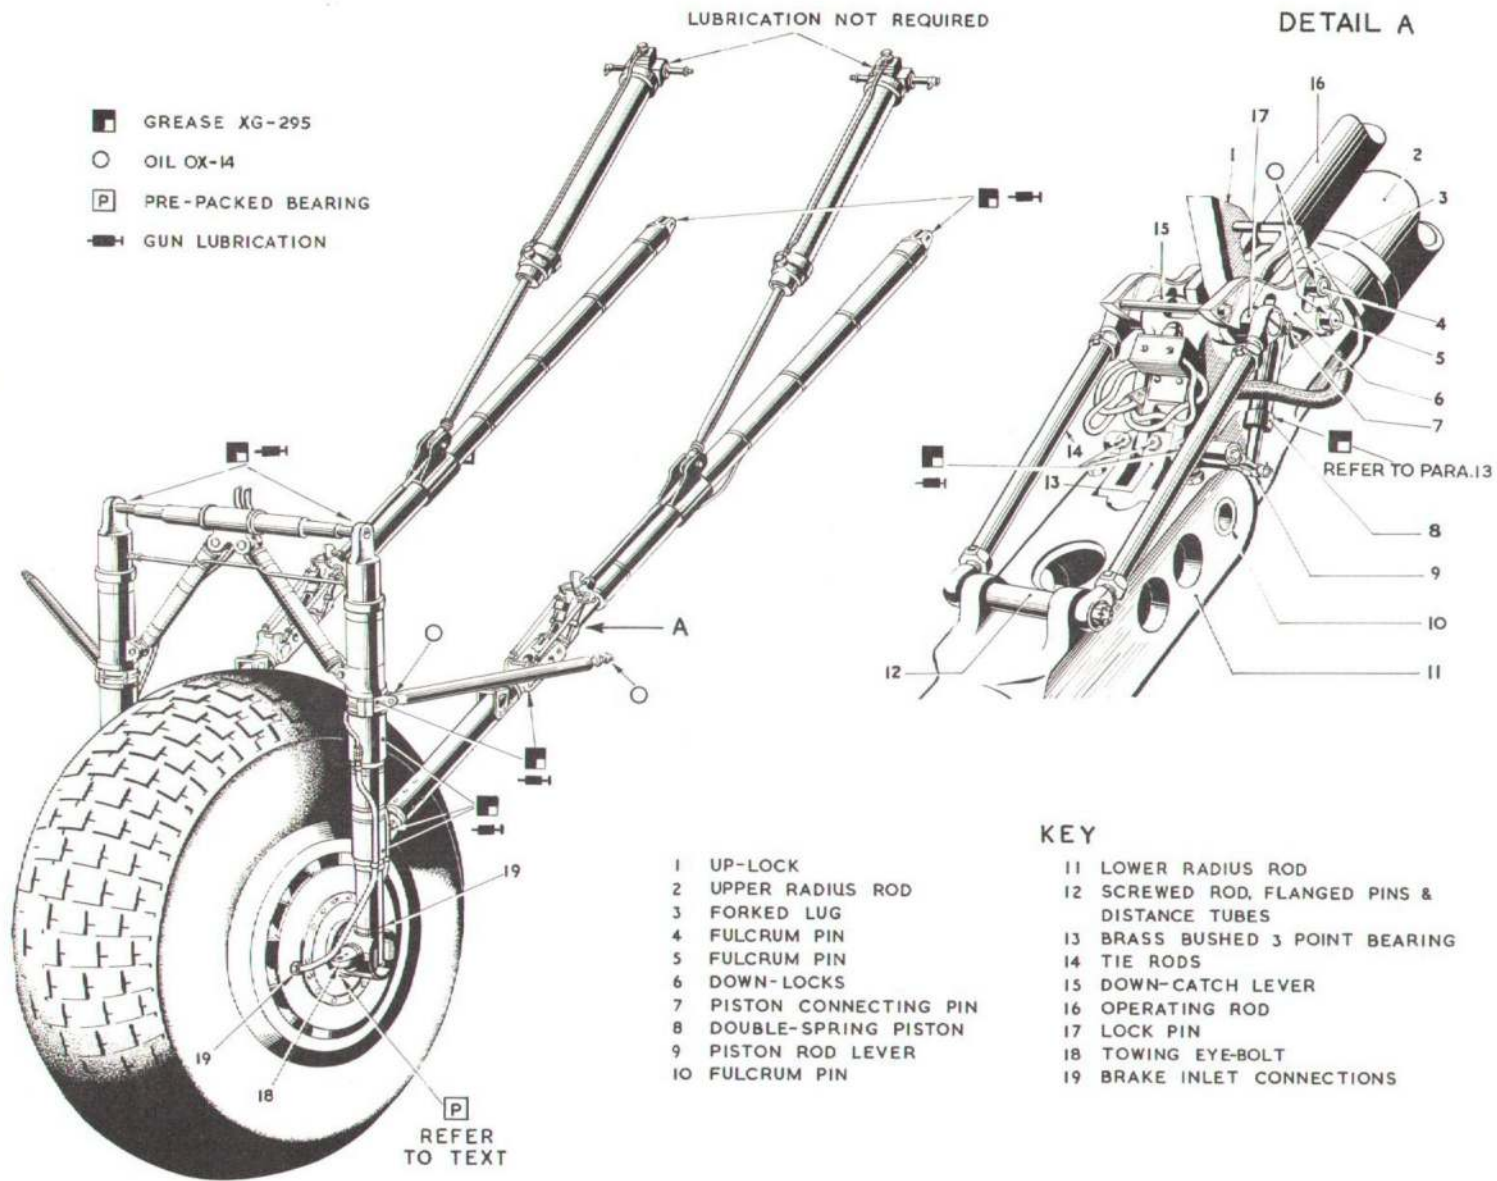

Fig.1. Main-wheel unit
Main-wheel units (fig.1)
13. Points requiring periodical lubrication are indicated in fig.1, 2 and 3. The lubricants to be used are grease XG-295 and oil OX-14. The tail wheel axle bearings are packed on assembly with grease XG-270. Main wheel bear-
ings must be assembled with grease XG-277. It is necessary to remove the double-spring piston (fig.1) in order to pack the cylinder with grease XG-295. Care must be taken when removing this item as the large spring is in slight compression.